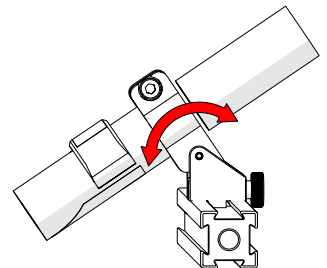

Fig. 160 - Aim guide
3. Adjust the laser guide's friction pivot aiming the beam at the inspection surface (Fig. 160).